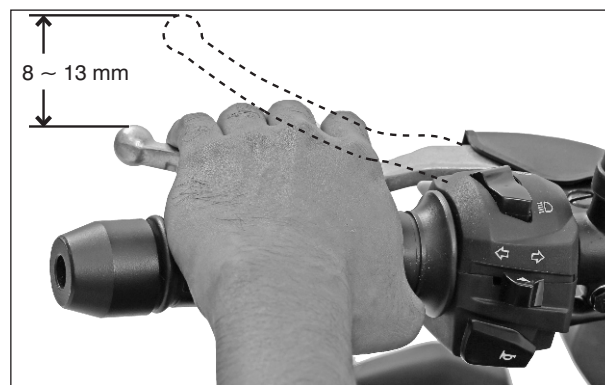

Fig. 2.69
- Measure the free play at the lever assembly clutch end as shown in the figure, before the clutch begins to disengage. (Fig. 2.69)